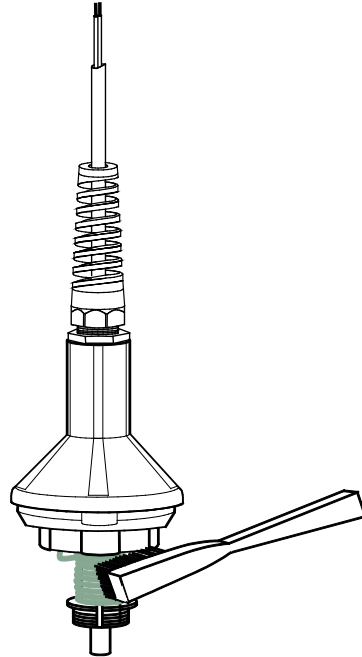

FIGURE 8-3. Using a toothbrush to clean sensor
- To clean, immerse the top part of the sensor in distilled white vinegar (3% acetic acid) for about 30 minutes. If vinegar is unavailable, use a soft toothbrush, automatic dishwasher detergent, and clean water to clean the cathode, anode, and plastic. Rinse all components thoroughly with clean water after cleaning (see FIGURE 8-3).